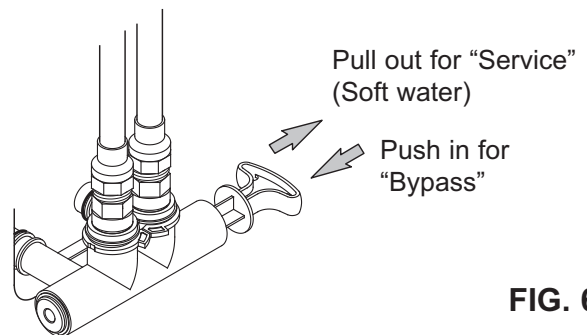
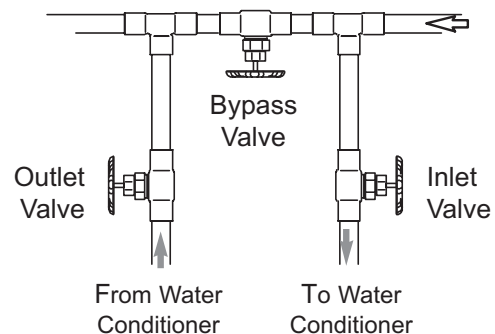

FIG. 6
FIG. 7
Always install either a single bypass valve (provided), as shown in Figure 6, or, if desired, parts for a 3 valve bypass system (not included) can be purchased and assembled, as shown in Figure 7. Bypass valves allow you to turn off water to the conditioner for maintenance if needed, but still have water in house pipes. Pipe fittings must be 3/4" minimum.
3. Place bypass valve(s) in "bypass" position (see Figures 6 & 7). On a single valve, slide the stem inward to bypass. On a 3-valve bypass, close the inlet and outlet valves and open the bypass valve.